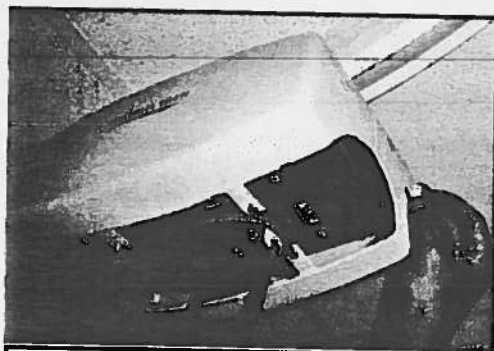

Figure 14C - Remove clip from side of the lift.
Step 3) Locate a small circular clip on one side of the lift. Refer to Figure 14C. Remove this clip and proceed to Step 4.